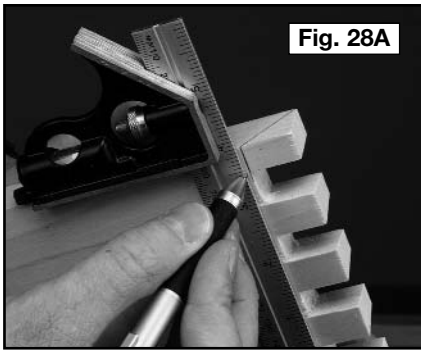

Fig. 28A
**Step 1** - On the inside surface, use a square and pencil to draw a line from the base of the pins to the edge where the miter will be cut (Fig. 28A).